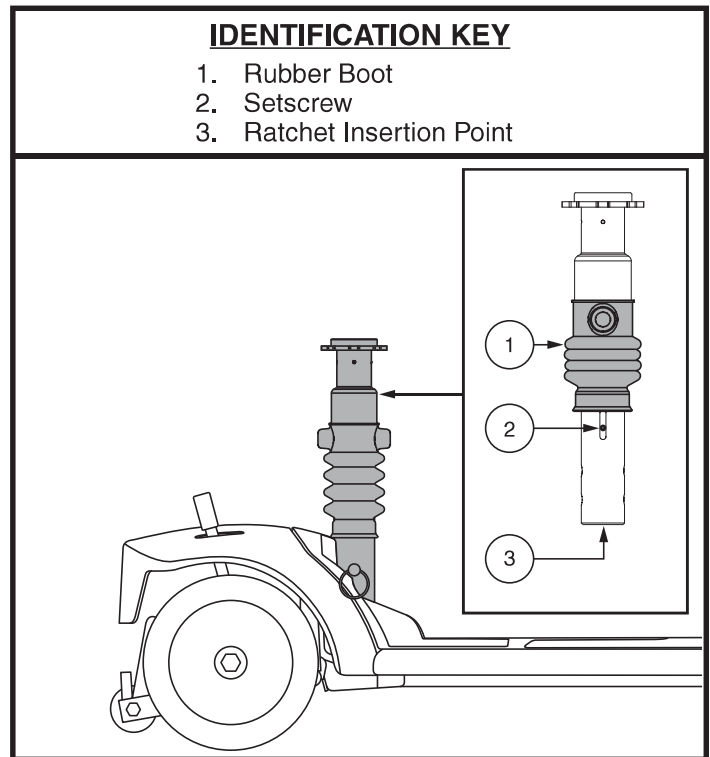

Figure 25. Seat Suspension Adjustment
The seat post acts as a shock absorber and can be adjusted for different degrees of ride comfort. Use the setscrews that are visible through the adjustment window on the side of the post as a guide when making adjustments. Slide the rubber boot towards the top of the post to expose the setscrews. See figure 25.
3. Insert a 13 mm socket with an extension into the bottom of the post. See figure 25.